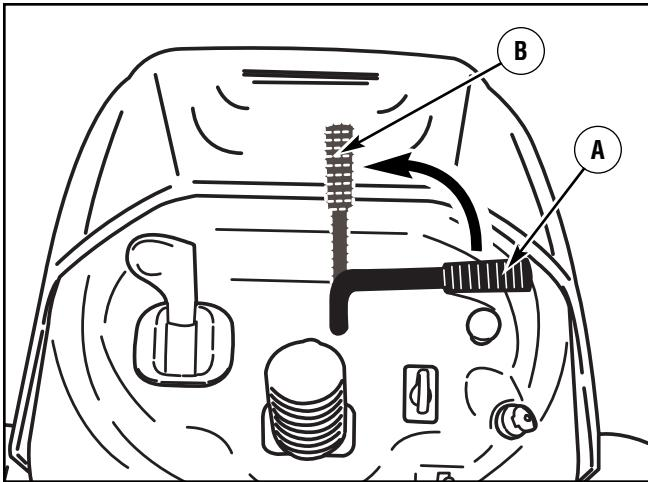

Figure 22: Blade adjustments
2. Move the **blade rotation control** to the **DISENGAGE** position (Figure 22).